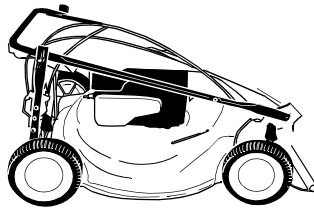

FIGURE 12
- You can fold your mower's handle for convenient storage as shown in Figure 12.